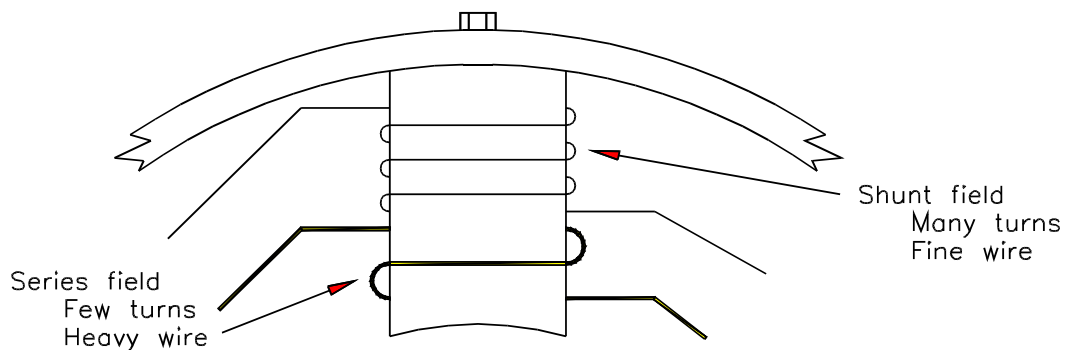

Figure 57
36. As Figure 57 shows, the connections for the series motor are the same as for the series generator. The field and armature being connected in series.